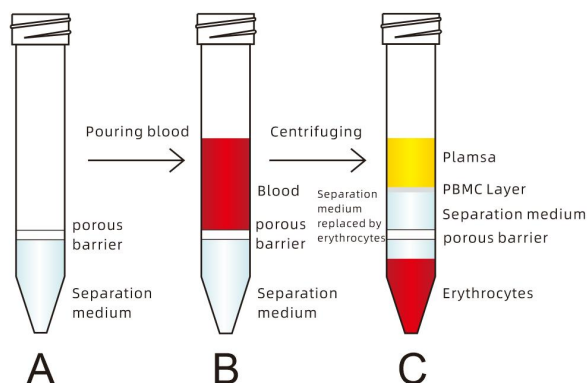

Figure 1. Process of Separating Blood with Lymphocyte Separation Tube for Human Peripheral Blood
1. Inspect, as shown in Figure 1 (A). Take out the separation tube, and observe whether any separation medium has moved from below to above of the porous barrier. If yes, centrifuge at 800 g for 1 min at 20°C.
2. Pour blood, as shown in Figure 1 (B). The blood sample must be anticoagulant blood without the need of dilution.
4. After suctioning out a portion of the plasma, directly pour the remaining small amount of plasma, PBMC layer, and a small amount of separation medium above the porous barrier into a clean centrifuge tube. As shown in Figure 1 (C), and the PBMC layer is below the plasma and above the separation medium.